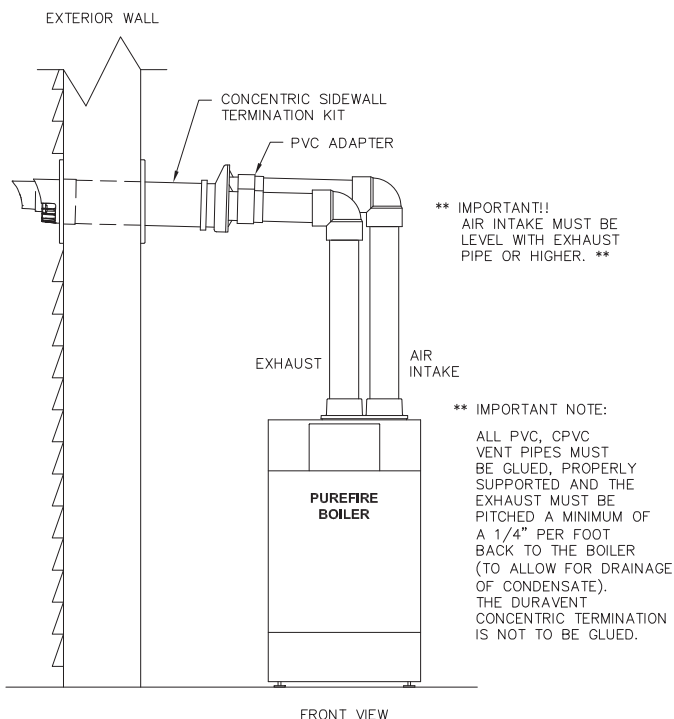

Figure 3.7: Optional Concentric Vent Kit Installation
- d. Figure 3.7 shows an approved sidewall vent configuration using an optional concentric vent termination kit. 3" (54498) or 4" (54499).
- g. Refer to Figures 3.7 & 3.8 for vertical venting options using PVC or CPVC pipe.